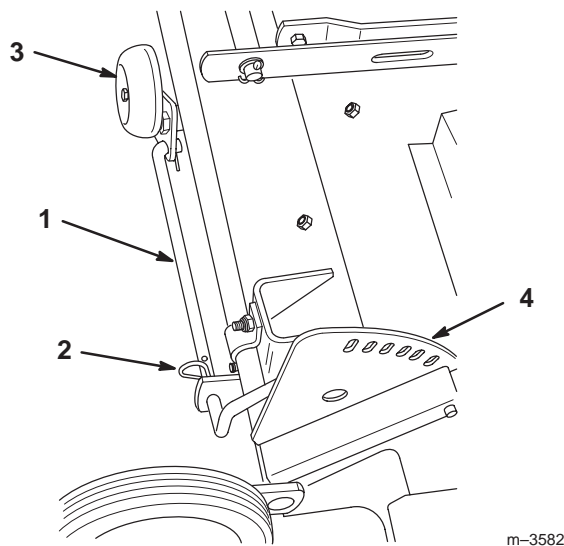

Figure 13
- A. Remove the hairpin cotter from the wheel rod (Fig. 13).
B. Slide the wheel rod back toward the center wheel as far as it will go. The end of the control rod should no longer be in the hole in the height of cut plate (Fig. 13).
C. Install the hairpin cotter into the wheel rod hole closest to the height of cut plate (Fig. 13).